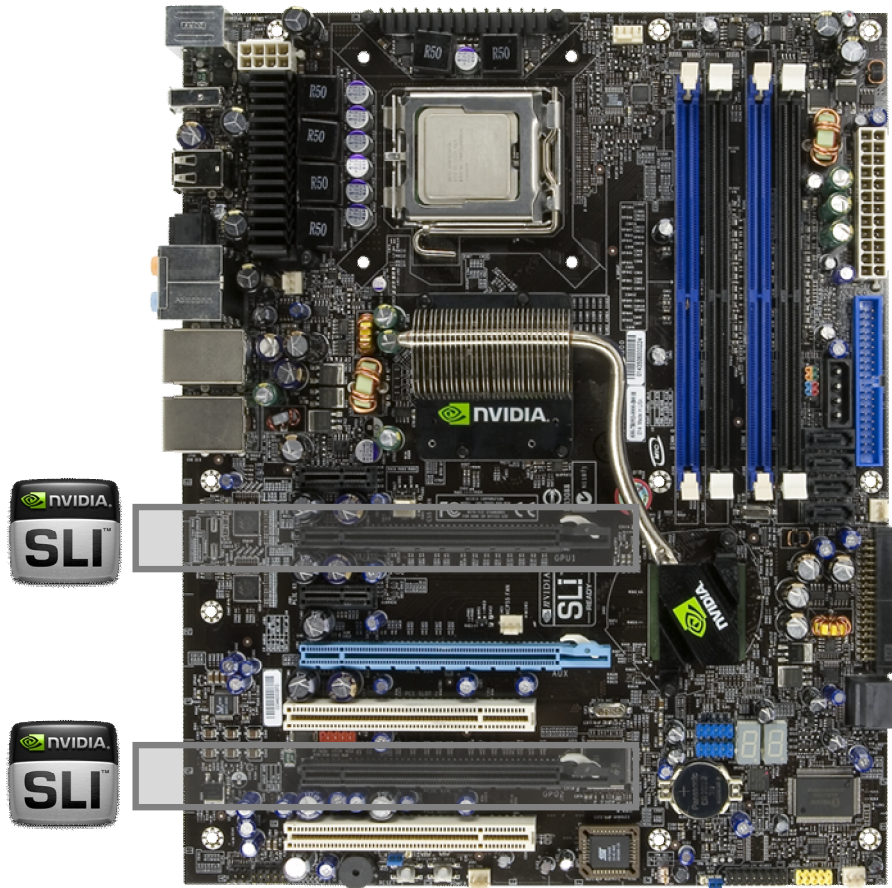

Figure 2. PCI Express Slots for an SLI System
**Note:** For the EVGA nForce 680i SLI motherboard, it's important to note that there are three PCI Express slots. To setup an SLI configuration, you must use the slots labeled PCIE X16\_1 and PCIE X16\_2. The PCI express slots can be seen in Figure 2. PCIE X16\_1 and PCIE X16\_2 the black slots. The third slot (PCIE X16\_3), which is blue, can be used for another NVIDIA-based graphics card for physics acceleration.